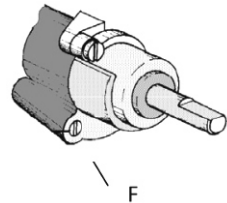

Fig. 3
e) Flame reduction adjustment (fig. 3)
- When switching **from LPG to the natural gas** the fine adjustment screw **F (fig. 3)** should be turned counterclockwise with use of small screwdriver until obtaining the required flame power.
- When switching **from the natural gas to LPG** the fine adjustment screw **F (fig. 3)** should be turned clockwise with use of small screwdriver until obtaining the required flame power.